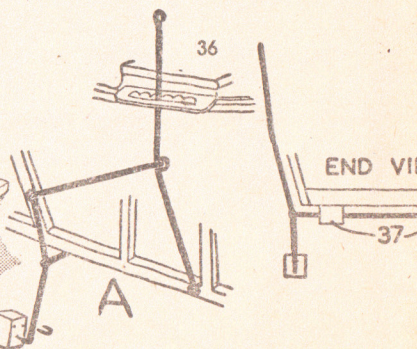

Fig. 7—Details of brake mechanism
At Fig. 7 you have the wire construction of the brake which is on the outside of the coach, blocks of wood being fitted on as brake blocks. The lever fits into a card or thin wooden ratchet (36), glued to the side of the framework. Fig. 7 gives you the two views showing how the handle lever should work both brakes by means of the under-floor rod which passes through the two support pieces (37).